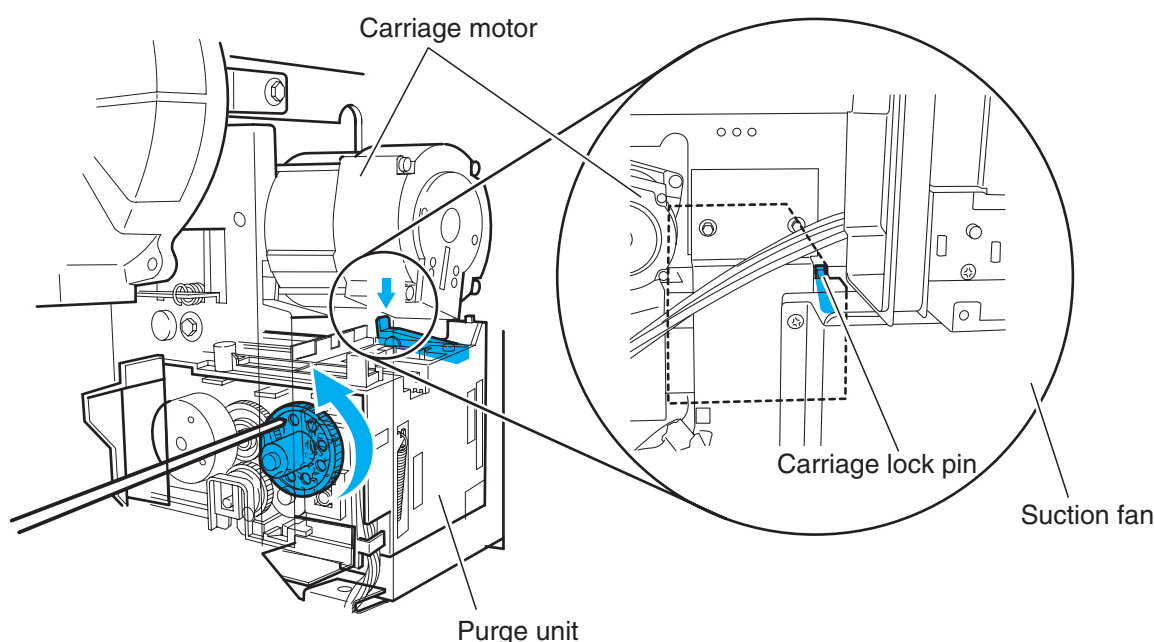

Fig. 5-39 Opening the Caps and Releasing the Carriage Lock Pins
- 2) Insert a long Phillips-head screwdriver into the hole in the purge gear from the printer right side. (See Figure 5-39)